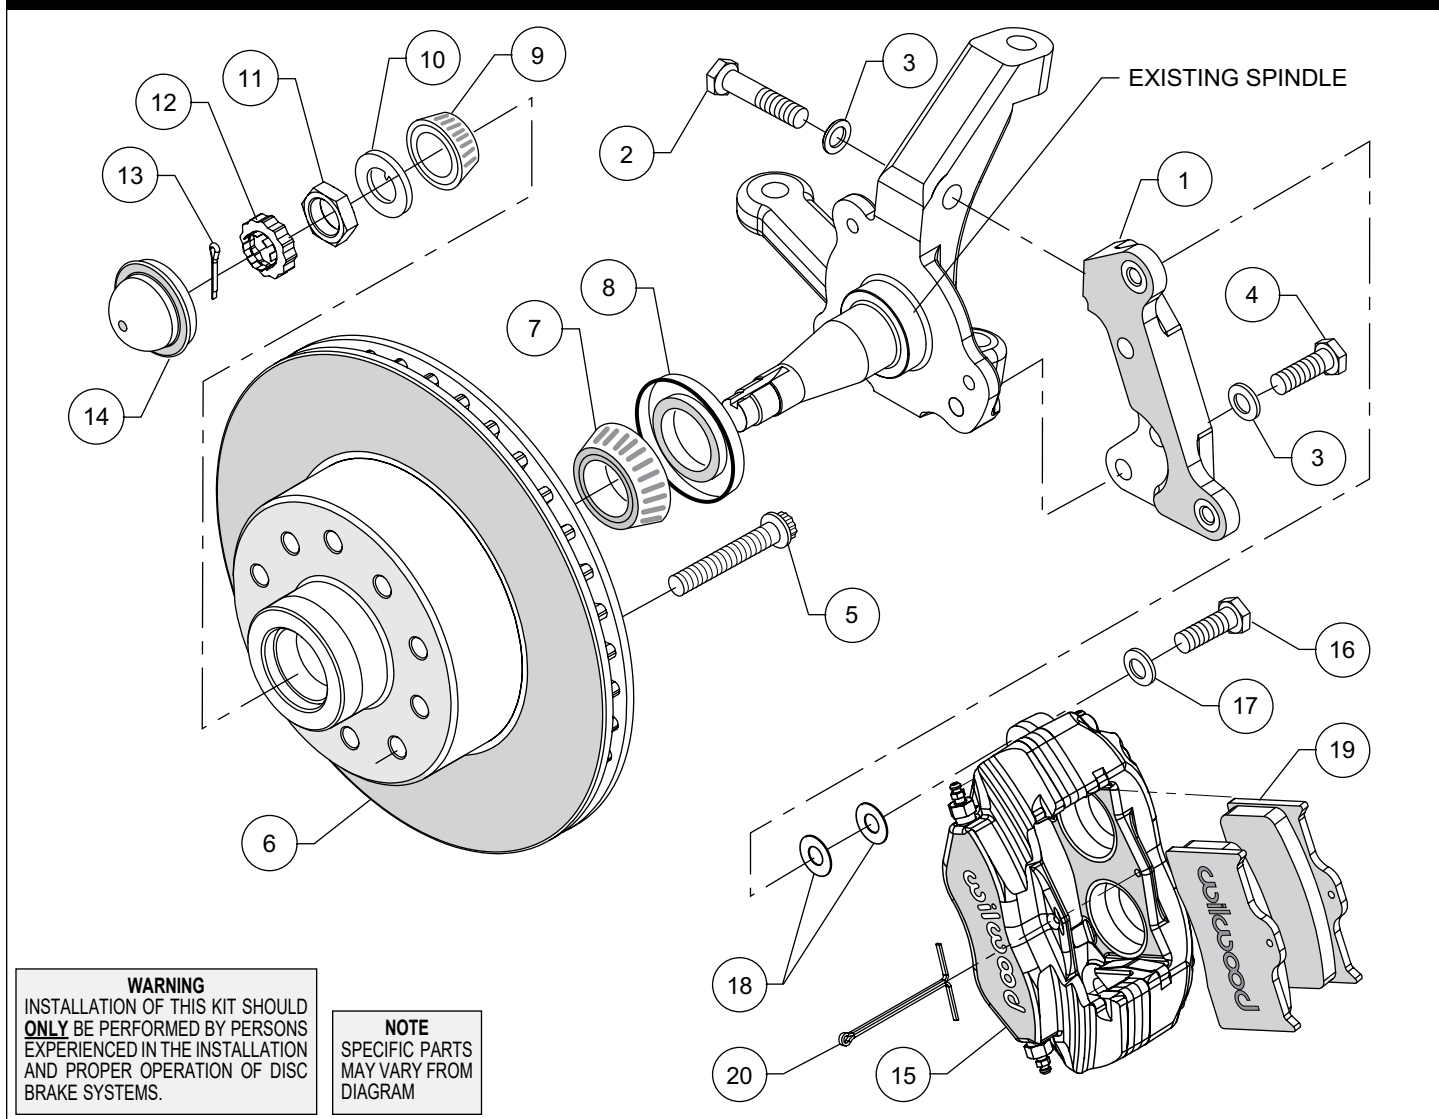
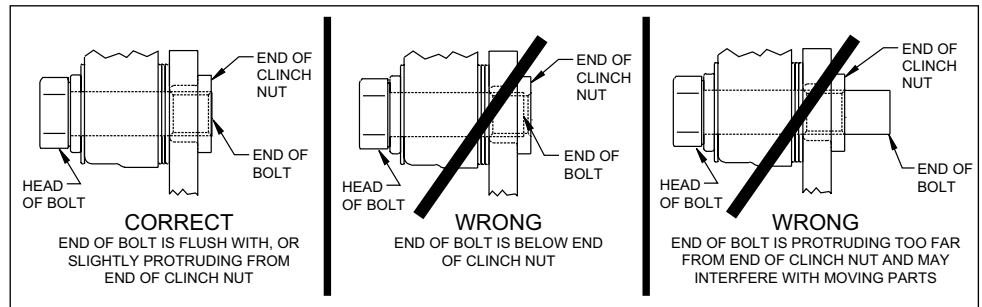

Figure 1. Typical Installation Configuration
Figure 3. Clinch Nut Engagement Diagram
NOTE: Numbers in parenthesis refer to the parts list and Figure 1 on the preceding pages.
CAUTION: All mounting bolts must fully engage clinch nuts. Be sure to check that all bolts are either flush or protruding through flanged side of clinch nut after shimming, Figure 3.
•Orient the caliper mount bracket (1) as shown in Figure 1 and Photo 1, and install using bolts (2/4) and washers (3). Ensure that the flanged heads of the clinch nuts in the bracket are facing outboard, Photo 1. Temporarily tighten the mounting bolts.
•Install wheel studs (5) into the hub (6), Photo 2. Apply red *Loctite*[®] 271 to the threads and torque to 77 ft-lb. **NOTE:** There are two five lug patterns in the hub (5 x 4.50 and 5 x 4.75). Ensure the correct hub stud pattern is being used to fit the wheel application.
•Pack the large inner bearing cone (7) with high temperature disc brake bearing grease (available from your local auto parts store) and install into the backside of the hub (6), Photo 3.
•Install the grease seal (8) by pressing into the backside of the hub (6), flush with the end of the hub.
•Pack the small outer bearing cone (9) with high temperature disc brake bearing grease and install into the front side of the hub (6). Slide the hub/rotor onto the spindle, Photo 4. Secure using spindle washer (10) and spindle nut (11). Adjust bearings per OEM specifications. Install spindle nut retainer (12) and cotter pin (13), Photo 5.
•Press the dust cap (14) into the hub (6), Photo 6. **NOTE:** Do not hammer center of cap. Install using outer flange only.
•**NOTE:** Please reference the caution statement at the beginning of the assembly instructions. Mount the caliper (15) onto the caliper mounting bracket (1) using bolts (16) and washers (17), as shown in Figure 1. Initially place two .035" thick shims (18) on each bolt between the caliper and the bracket, Photo 7. Temporarily tighten the mounting bolts and view the rotor (6) through the top opening of the caliper. The rotor should be centered in the caliper, Photo 8. If not, adjust by adding or subtracting shims between the bracket and the caliper. Always use the same amount of shims on each of the two mounting bolts. **NOTE:** The end of each bolt must be flush with or slightly protruding from the head of the clinch nut, as shown in Figure 3. If necessary place spare shims between washer (17) and caliper mounting ear to achieve the proper clinch nut engagement. Once the caliper alignment and clinch nut engagement are correct, remove the bolts one at a time, apply red *Loctite*[®] 271 to bolt threads, and torque to 40 ft-lb.